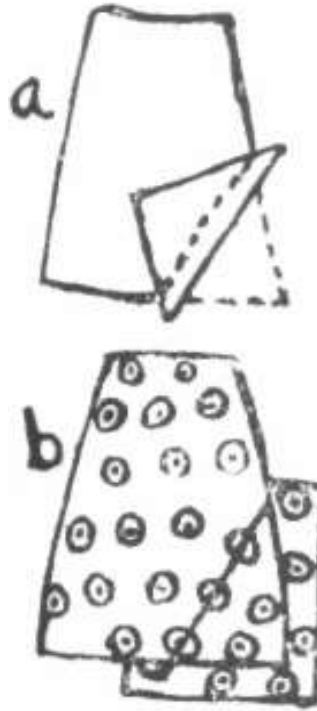

Fig.13.1a,b
(1) If possible, reduce seam allowances, hem allowances or length and width of some of the pattern pieces. Often you can do this without changing the fit of the garment by reducing fullness (gathers, pleats etc.).
(2) You may decide to cut some pieces on bias or crosswise grain. Some prints may look attractive if the yoke or sleeves are cut on bias or crosswise grain.
(3) Pattern pieces which have to be cut on fold can be cut near selvages and then joined up, with some trimming applied near the seam (eg., box pleat with a harmonising material, faggoting, lace etc) to make it look like an original pattern. You may even find that you end up with an interesting new design (necessity is the mother of invention!).
(4) Use some other material similar in colour and texture to cut parts that are not visible from outside.
(5) You may decide to modify the design of the garment. For example, if you were planning to have a puff sleeve, use a plain sleeve or omit the sleeve.
(6) Certain sections which ought to be cut in one piece may be cut out. in more than one piece and then stitched together if material is otherwise not sufficient. This technique is called piecing. Piecing should be done inconspicuously with design and grain matched- Piecing in solid coloured fabrics is shown in Fig.13.1a and printed fabrics in Fig.13.1b.